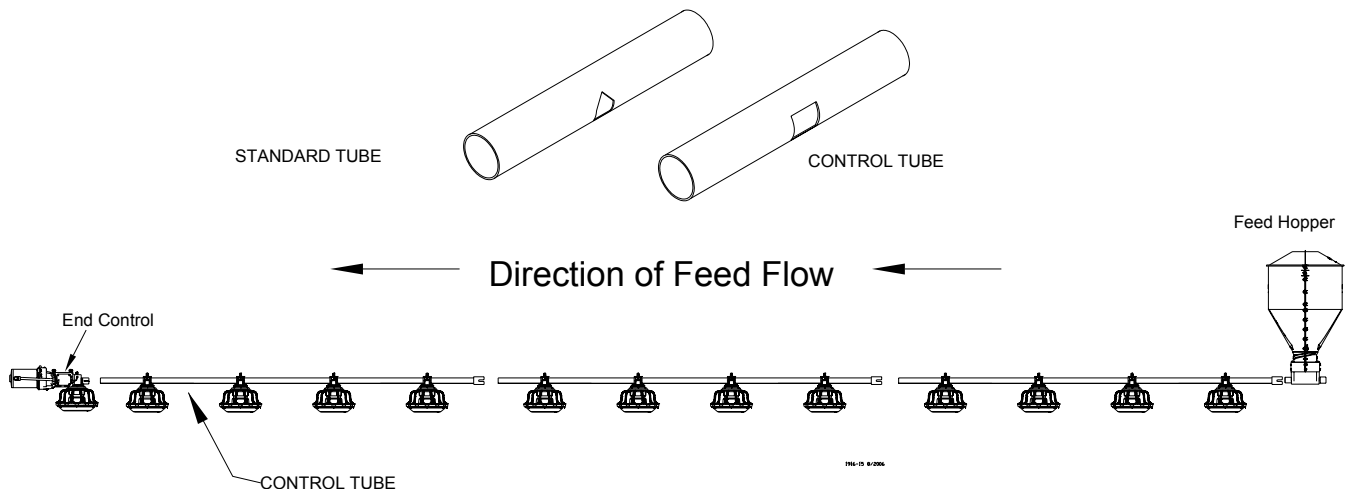

Figure 57. Assemble Feeders on Tubes
1. The auger tubes and feeders may be laid out end to end in approximately the final location of the line. **The expanded end of each tube should be toward the Hopper end of the line, see figure 57.**